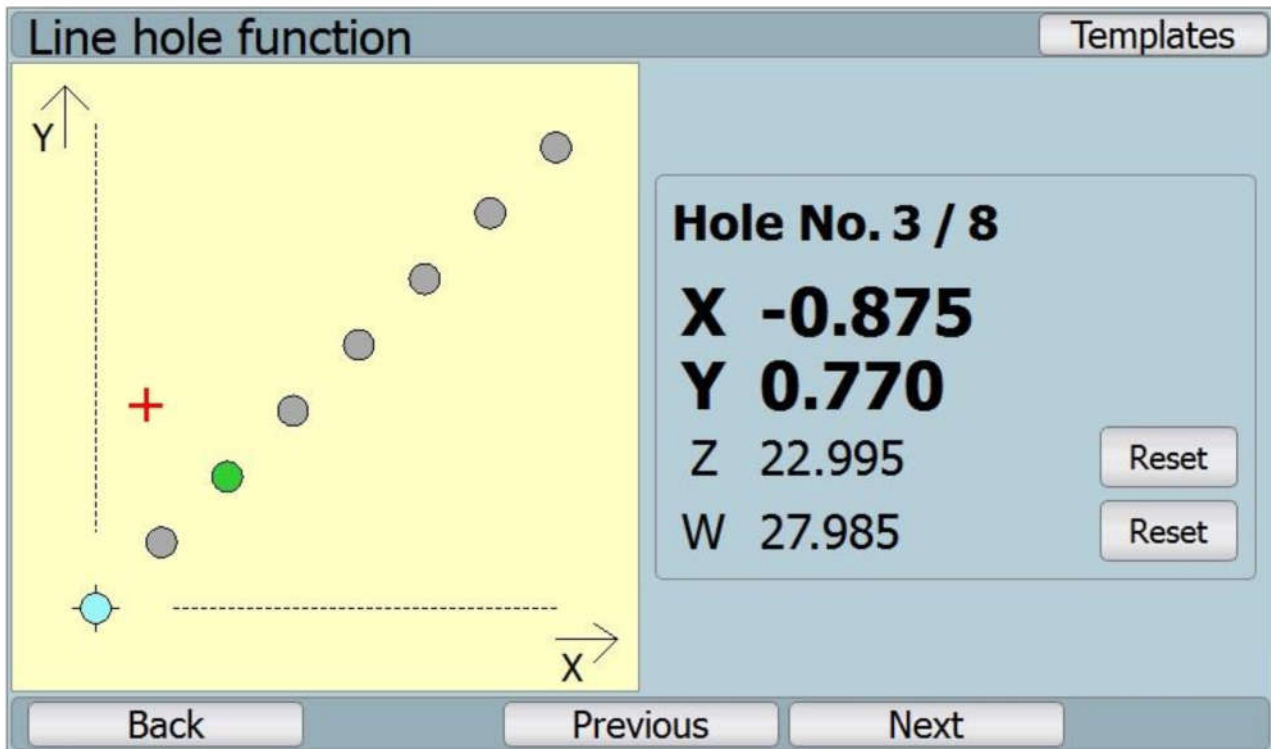
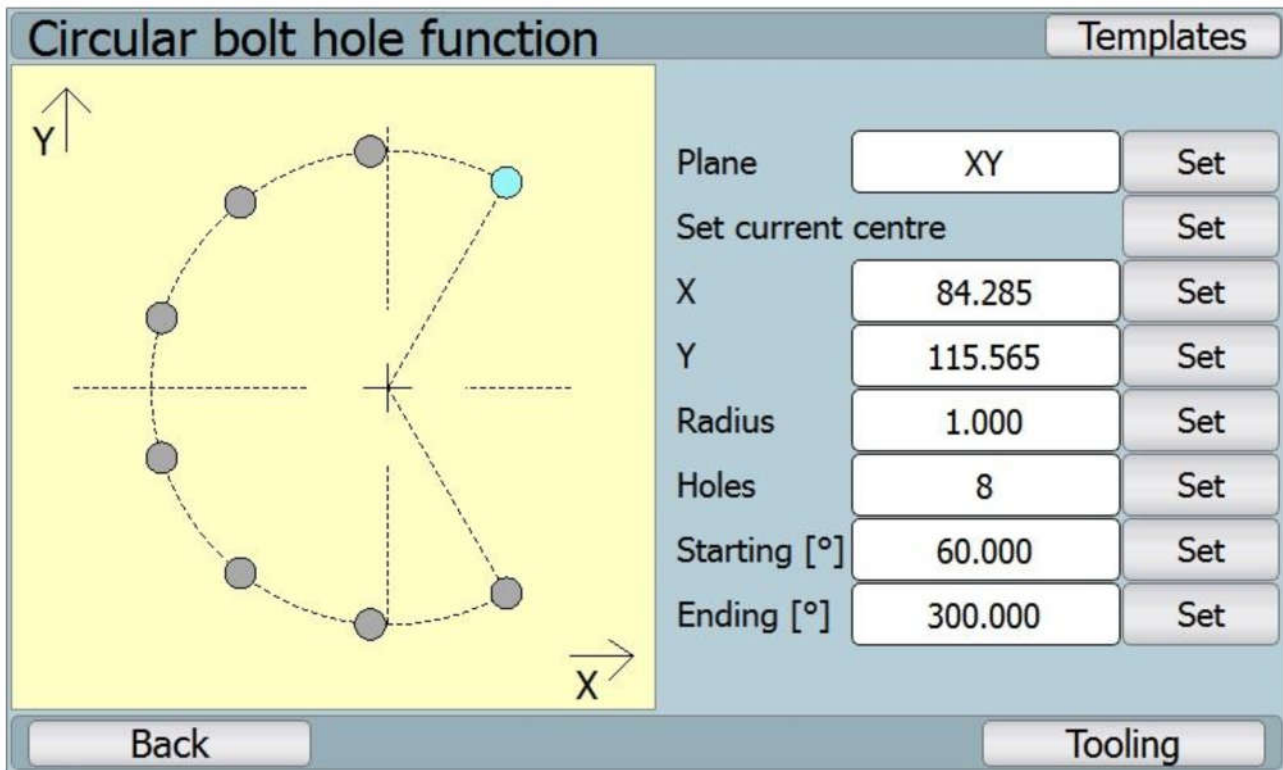
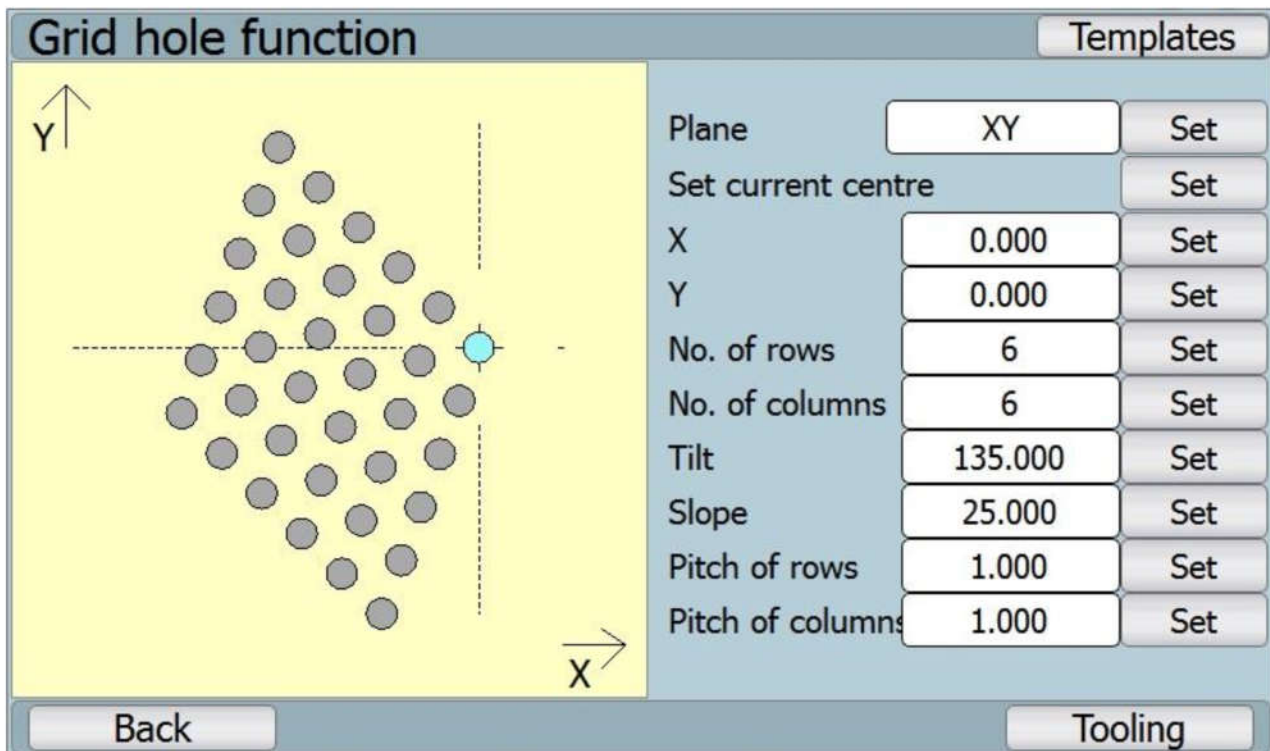

Fig. 18: Hole drilling on line – edit one point from the scene
Fig. 21: Drilling holes on circle
Fig. 22: Drilling holes on the nut
- ⑩ It is used for drilling holes on the line.
- ⑩ At first, select the plane where individual holes shall be drilled.
- ⑩ Set the centre coordinates for drilling. It is possible to set any coordinates or the actual coordinates using button „**Nastavit aktualni stred**“ (set actual centre) (see fig. 18: Hole drilling on line – edit one point from the scene).
- ⑩ Select the number of holes for drilling
- ⑩ Set the spacing of the holes and their turning.
- ⑩ Automatically re-draws the scene with the display how the task shall look like.
- ⑩ Every entered hole can be edited independently – shift in defined plane axes, set the distance from the centre or the turning angle. This option is achieved by marking the hole in the scene (finger or stylus). Marked hole is green (see fig. 18: Hole drilling on line – edit one point from the scene).
- ⑩ **Caution** during every change of the setting the scene is re-drawn. If for example one hole is shifted to other than defined entry (manually, see point) and then the setting changes, it is automatically re-drawn!
- ⑩ The hole can be deleted from the scene using button „**Odstranit**“ (delete).
- ⑩ After returning to the initial setting, it is possible to use button „**Zpet**“ (back) on the right or mark a location where no hole is drawn in the scene.
- ⑩ As soon as all parts are entered, press button „**Obrabeni**“ (machining) to get back to the machining mode where individual holes can be drilled.
- ⑩ It is used for drilling holes on the circle circumference.
- ⑩ At first, select the plane for drilling
- ⑩ Set the centre coordinates for drilling. It is possible to set any coordinates or the actual coordinates using button „**Nastavit aktualni stred**“ (set actual centre) (see fig. 21: Drilling holes on circle).
- ⑩ Select the number of required holes, circle diameter, initial and final angle.
- ⑩ **Caution** during every change of the setting the scene is re-drawn. If for example one hole is shifted to other than defined entry (manually, see point) and than the setting changes, it is automatically re-drawn!
- ⑩ It is used for drilling holes on the nut.
- ⑩ Set the centre coordinates for drilling. It is possible to set any coordinates or the actual coordinates using button „**Nastavit aktualni stred**“ (set actual centre) (see fig. 22: Drilling holes on the nut).
- ⑩ Select the number of required holes, number of lines and nut columns, turning, bevelling, spacing of lines and columns.